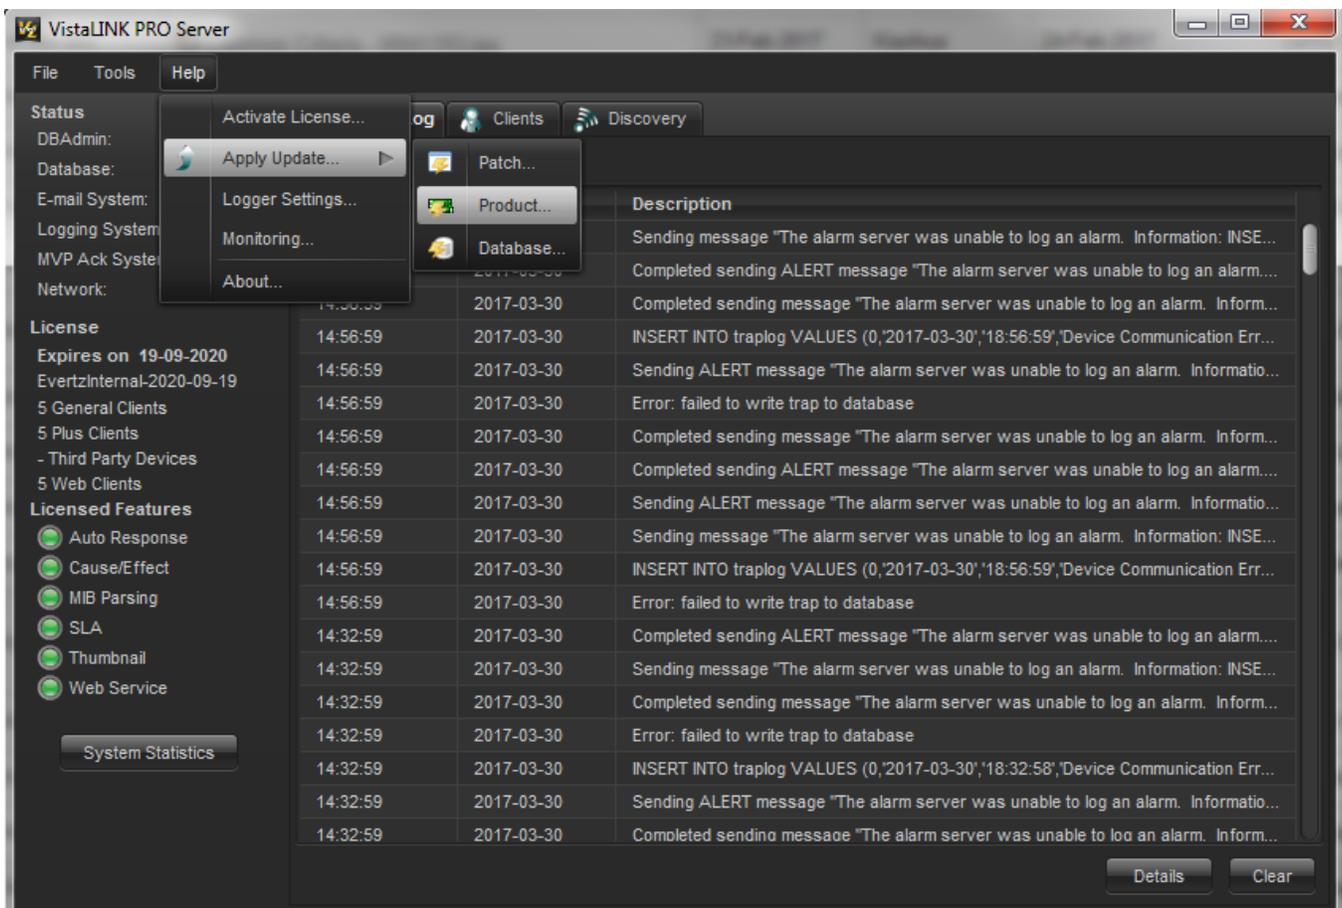

Figure 6-1 : VistaLINK® - Updating Jar file
- On the main page of VLPro Server, select **Help** on task bar then choose **Apply Update** and **Product**.(Figure 6-1)